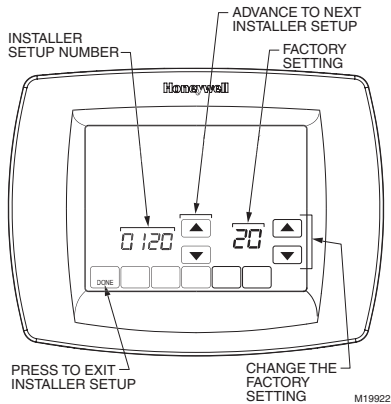

Fig. 23. Installer Setup Number and factory setting selection locations.
- 4. The Installer Setup Number is displayed in the lower left. It is a four-digit code beginning with zero. The factory setting or other choice selection is displayed in the lower right. See Fig. 23. This is a two-digit code shown in the Option column of Table 4.
- 1. Advance to the next Installer Setup Number by pressing the up and down arrow keys to the right of the four-digit Installer Setup Number. See Fig. 23.
- 2. Change the factory Setting Options by pressing the up and down arrow keys to the right of the two-digit code selection. See Fig. 23.